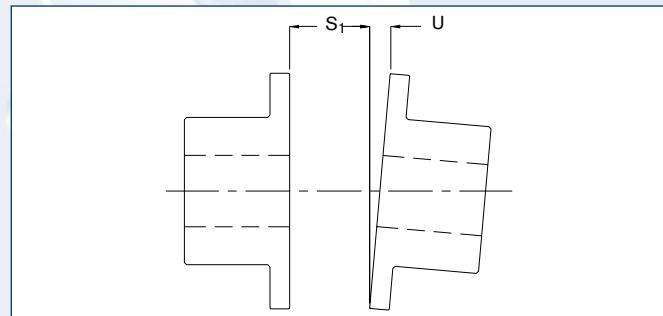

Fig. 5
- It is a good practice to check the coupling alignment one last time after completing the assembly. This can be achieved by measuring the disc pack gap in 2 locations 180 degrees apart to find (2) lengths (Fig. 5). The difference in these two measurements should not exceed ( $U$ ); see Table 4, page 55. This completes the coupling installation.